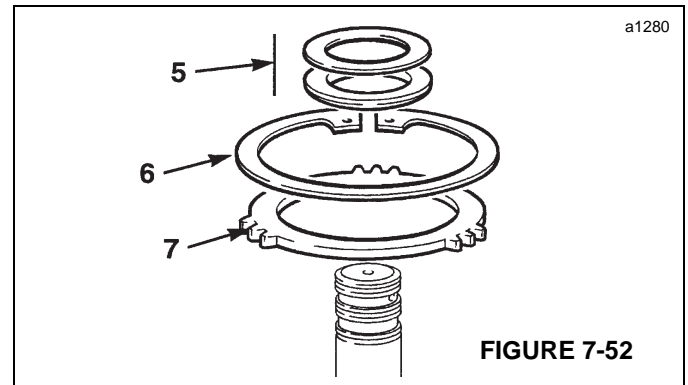

FIGURE 7-52
- Remove plastic type washer and thrust washer (5, Figure 7-52).